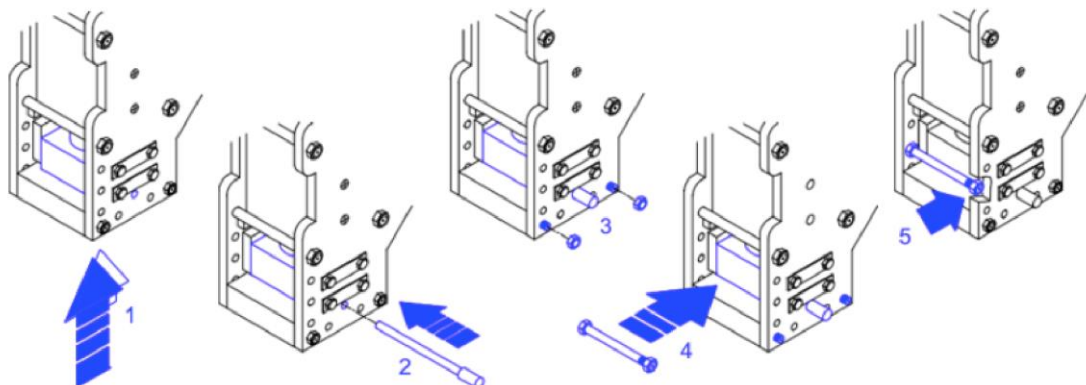

Fig.21. Hammer group structure 1-5
- Insert one hand in the pile hammer template (1) so the pile hammer will be pushed up with the purpose of inserting a bearing pin (2) in the appropriate hole, as shown in the fig.21, in order to block the descent of the pile hammer;
- Next, the operator removes only two of the screw nuts, shown in the figure (3), that fix the pile hammer template to the structure of the hammer group without extracting the pins
- The operator then inserts the dilator bolt with screw nut into the structure of the hammer group, as shown in the figure (4). Then the operator will activate the screw nut placed on the same bolt, (5) with a key. Such action opens the sides of the hammer group structure and makes it easy to remove the pile hammer template;